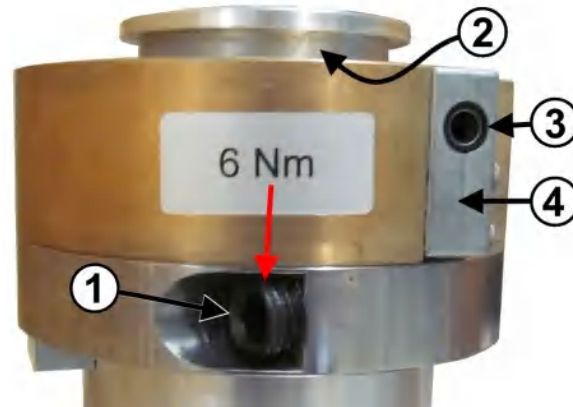

Figure 7-2: Turntable with clamping screw and crank drive
4. Insert the crank (labeled 4 in Figure 7-3) into the hexagonal socket (labeled 3 in Figure 7-2).